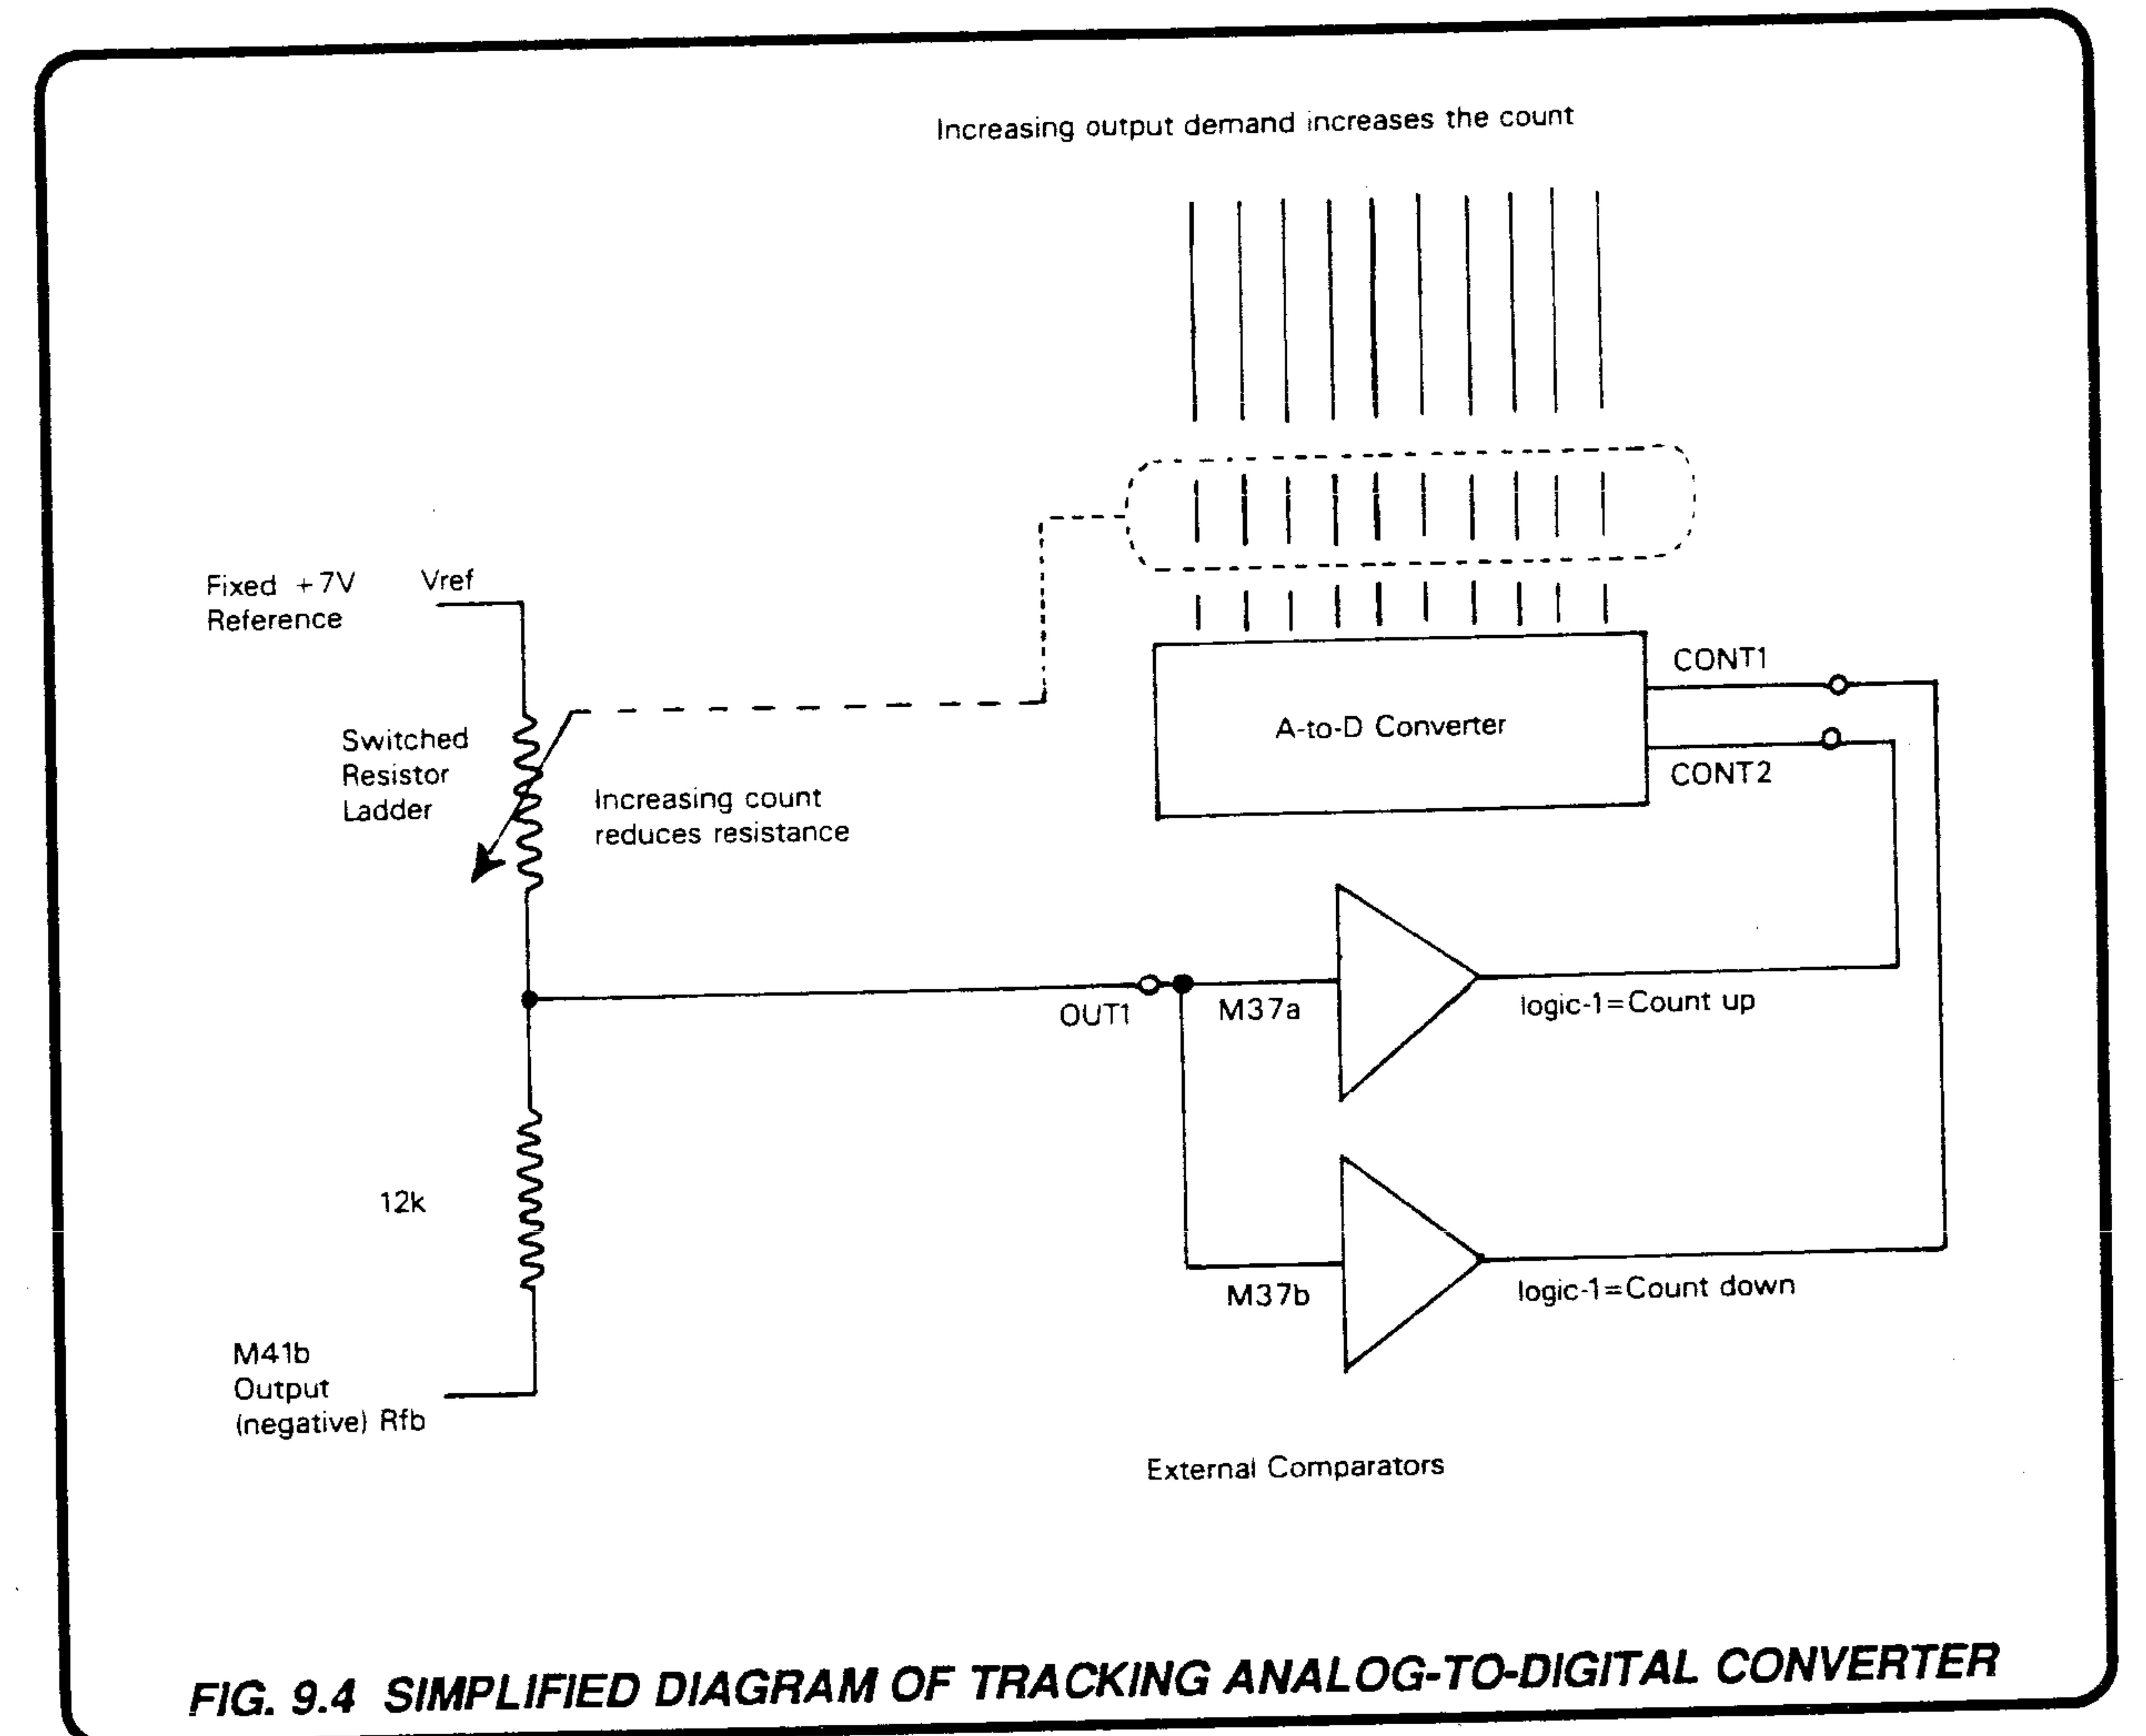

FIG. 9.4 SIMPLIFIED DIAGRAM OF TRACKING ANALOG-TO-DIGITAL CONVERTER
9.3.2.2 Tracking ADC M38 (Fig.9.4)
An internal 12kΩ reference resistor and switched resistor ladder form a divider between pin 27 (V_{REF}) and pin 1 (R_{FB}). Their junction is brought out to pin 2 (OUT 1). (See Figs. 9.4 and 9.5.)